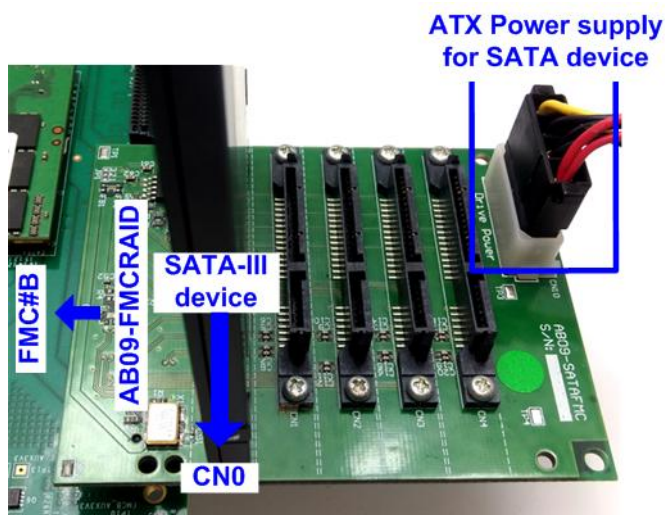

Figure 2-1 AB09 connection to FPGA board
- 2) Setup AB09 adapter board as shown in Figure 2-1.